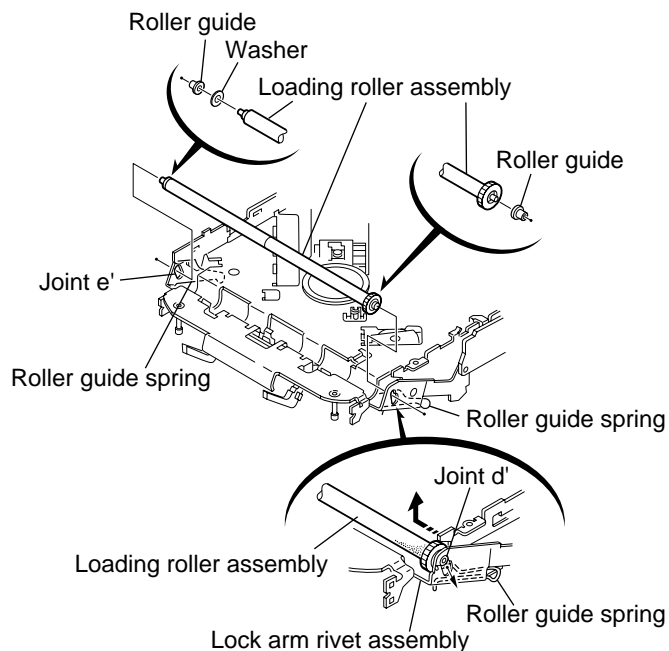

Fig.27
■ Removing the loading roller assembly (See Fig.27 to 29)